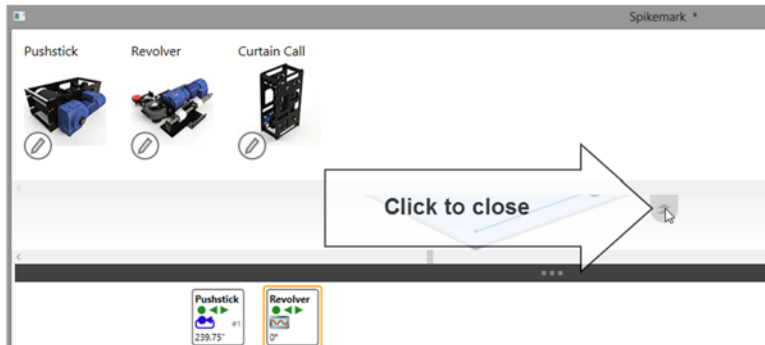

Figure 162
4. To close the Machine Library panel, either press the Esc button or click the Machine Library close tab (Figure 162).